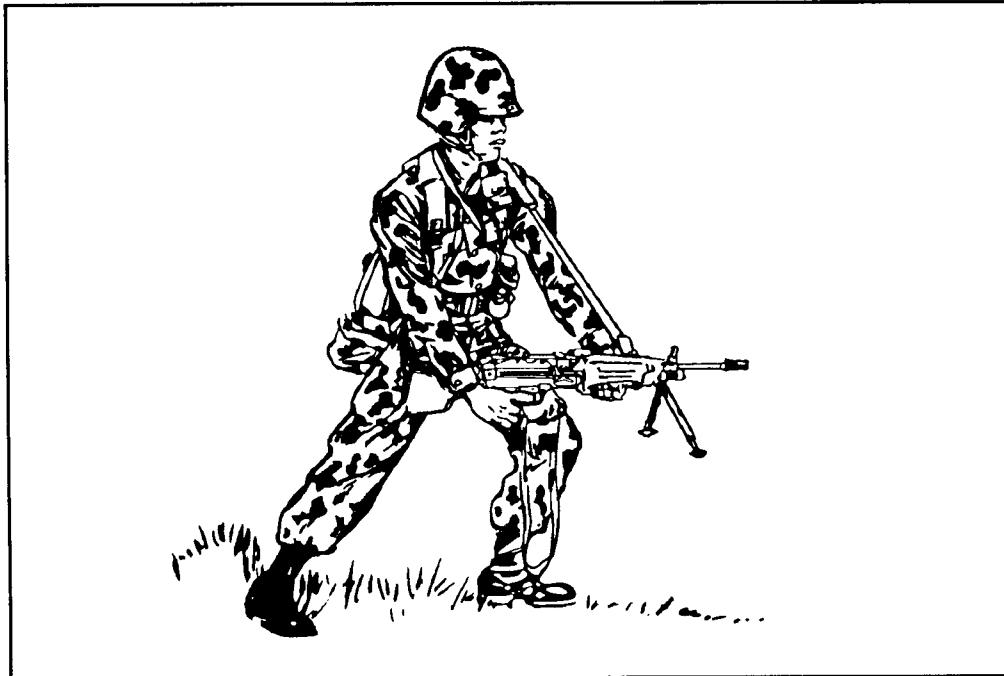

Figure 6-27. Hip firing position.
c. **Hip Firing Position.** This position is used when closing with the enemy, when a heavy volume of fire in the target area is required, and when rapid movement is not necessary (Figure 6-27). The only differences between this position and the underarm position are—
- (1) The rear of the stock is held firmly against the forward position of the right thigh.
- (2) The arms are extended fully downward.